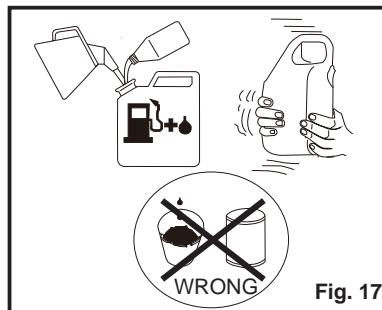

Fig. 17
## FUEL MIXTURE (See Fig. 17)
- Ensure that the fuel is well mixed by shaking the container before filling the fuel tank (Fig. 17).